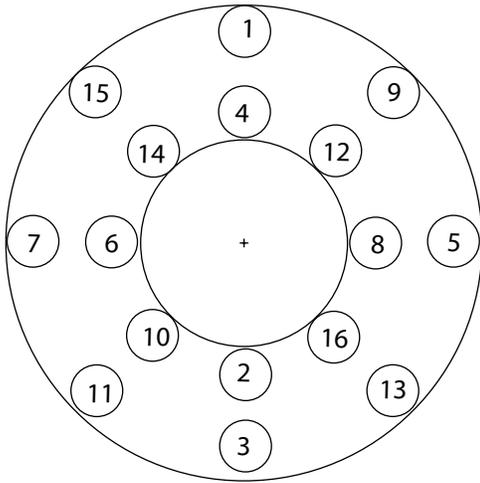

Figure 17
- (a) For the first 16 screws, bring the initial torque of each screw up to 33% of the torque value shown in Table 15 using the tightening sequence shown in Figure 17. Install and torque the remaining screws in any reasonable crosswise pattern to 33% of the torque value shown in Table 11.
- (b) Repeat the sequence of torque tightening on the first 16 screws as shown in Figure 17 and bring each screw up to 66% of the torque value shown in Table 11. Torque the remaining screws in any reasonable crosswise pattern to 66% of the torque value shown in Table 11.
- (c) Repeat the sequence of torque tightening on the first 16 screws as shown in Figure 17 and bring each screw up to 100% of the torque value shown in Table 11. Torque the remaining screws in any reasonable crosswise pattern to 100% of the torque value shown in Table 11.